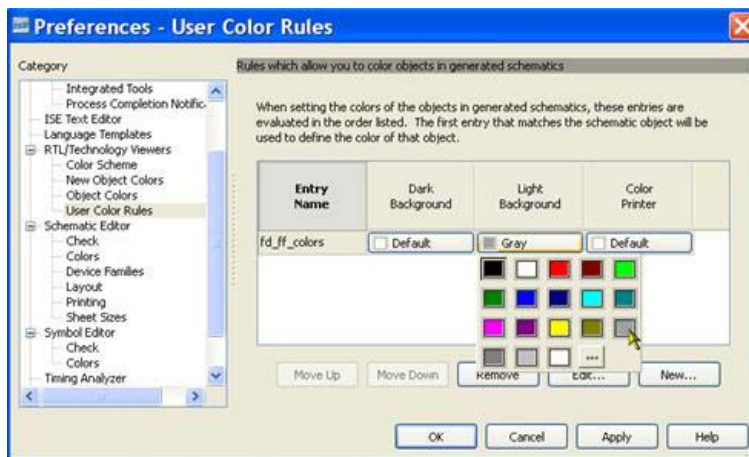

Figure 7-10: Selecting Light Background Gray
- In the Light Background column, select **Gray** as the color (see Figure 7-10) for **fd_ff_colors**, and click **OK**.